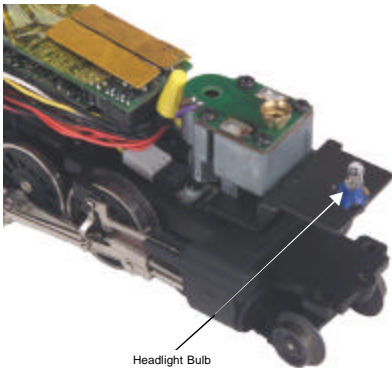

Figure 7: Headlight Location
1. To replace the headlight in this model you will need to follow the disassembly instructions for greasing the engine in figure 5a on pg. 11. Once the boiler has been removed you can access the headlight (see figure 7).